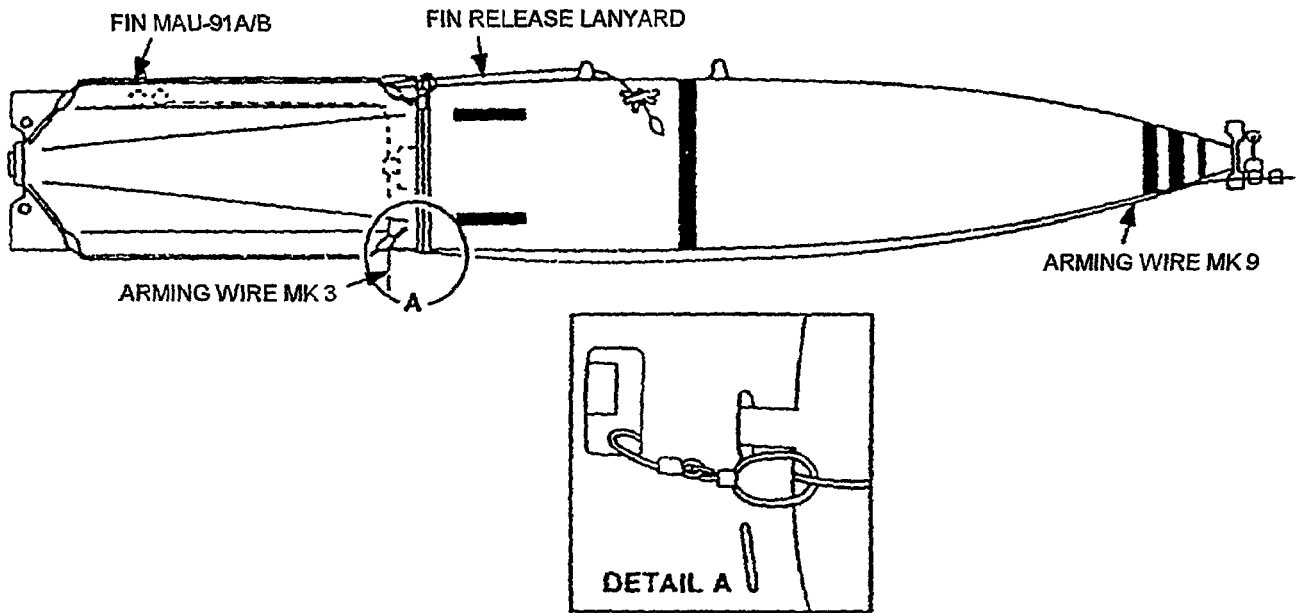

Figure 4-19C. Arming Wire Installation for Bomb Fin MAU-91A/B
- (1) Thread free end of Arming Wire Mk 9 through large fin cutout on bottom of fin (Figure 4-19C).
- (2) Thread arming wire through swivel loop on the other end of Arming Wire Mk 9; pull arming wire taut. Ensure arming wire is not kinked.
- (3) Insert free end of arming wire through outer hole on arming device lower vane.
- (4) All Aircraft Except B-52: Secure arming wire with two Fahnstock clips snug against arming vane.
- (5) B-52 Only: Secure arming wire with one beryllium clip snug against arming vane.
- (6) Cut excess arming wire about 3 inches forward of arming device vane; discard remnant wire.